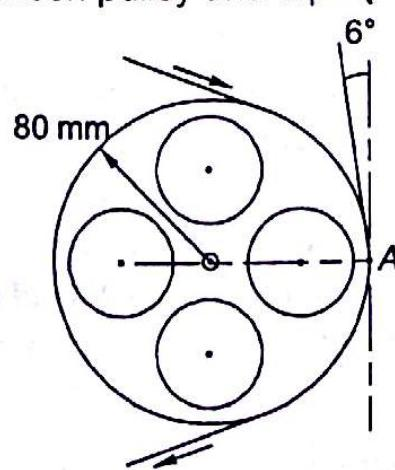

Fig. 11.11
11.5 A magnetic tape runs over an idler pulley of radius 80 mm. At the contact point A, at time $t=0$. Velocity is $V = 2.5 \text{ m/s}$. If the total acceleration at the point of contact A is inclined at an angle of 6° to the tangent at time $t=0$, determine the time in which the pulley will be brought to rest at uniform deceleration assuming no slip between pulley and tape (Fig. 11.11).